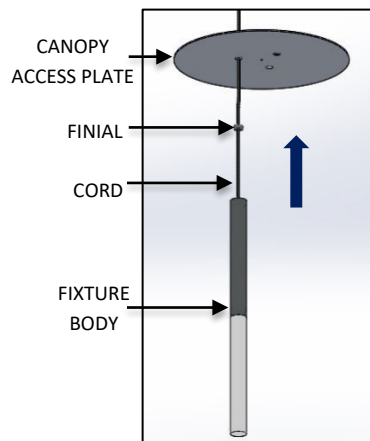
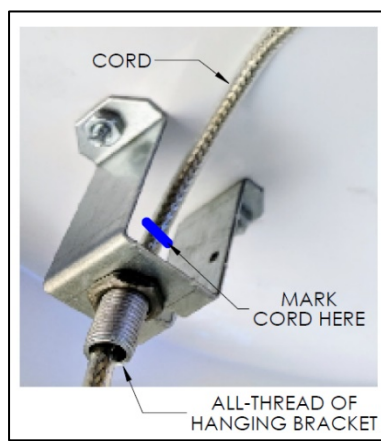

FIG. 7 – FIXTURE INSTALLATION
FIG. 8 -CORD INSTALLATION
4. Raise the GLOWSTICK FIXTURE BODY and feed FIXTURE CORD through FINIAL, the hole in CANOPY ACCESS PLATE and FIXTURE BRACKET as shown below in FIG. 7. Adjust fixture drop to desired height. Mark cord with marker inside of HANGING BRACKET as shown below in FIG. 8. Trim off excess cord leaving minimum of 8.00" past the top of the DRIVER MOUNTING BRACKET all thread.